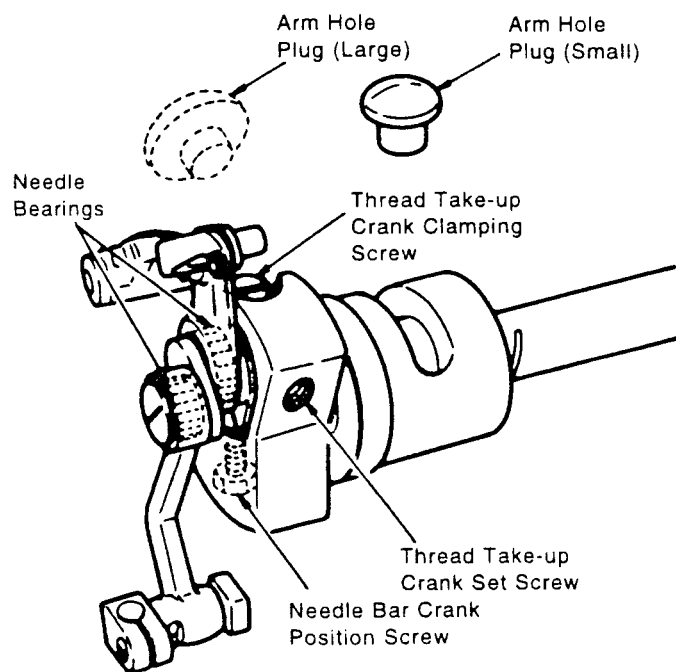

Fig.23
CAUTION: DO NOT DISTURB the smaller hexagon head needle bar crank position screw, Fig. 23, which holds the needle bar crank at its correct position on the horizontal arm shaft.
3. Assemble thread take-up lever assembly to needle bar crank so that the set screw will bear on the flat on thread take-up crank, as shown in Fig. 23.
6. If there is no side shake as mentioned in item 5 above, move thread take-up crank inward or outward in needle bar crank, as required, to obtain clearance.